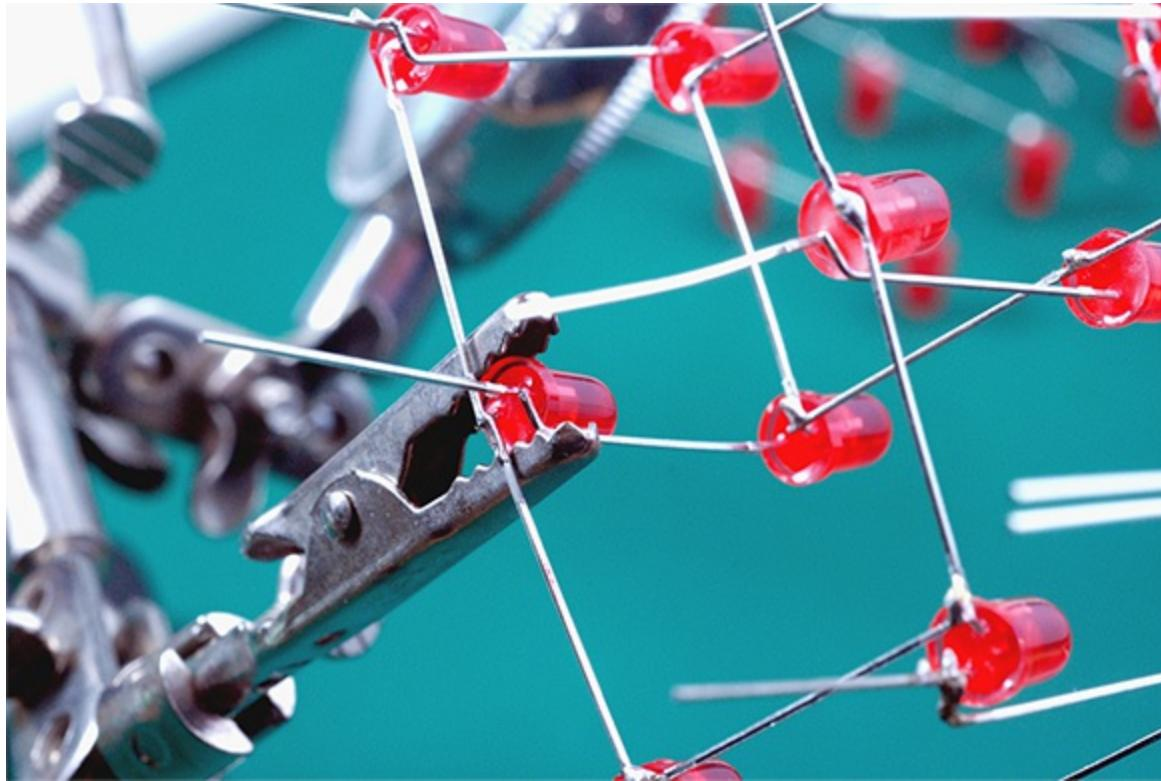

Figure 15-6: Soldering your anode columns together.
- This is the point when it's good to have about five limbs! Use your “helping hands” or an alligator clip to hold things together while you make the solder joint, as shown in Figure 15-6. Try to work quickly so that you don't overheat the LEDs.